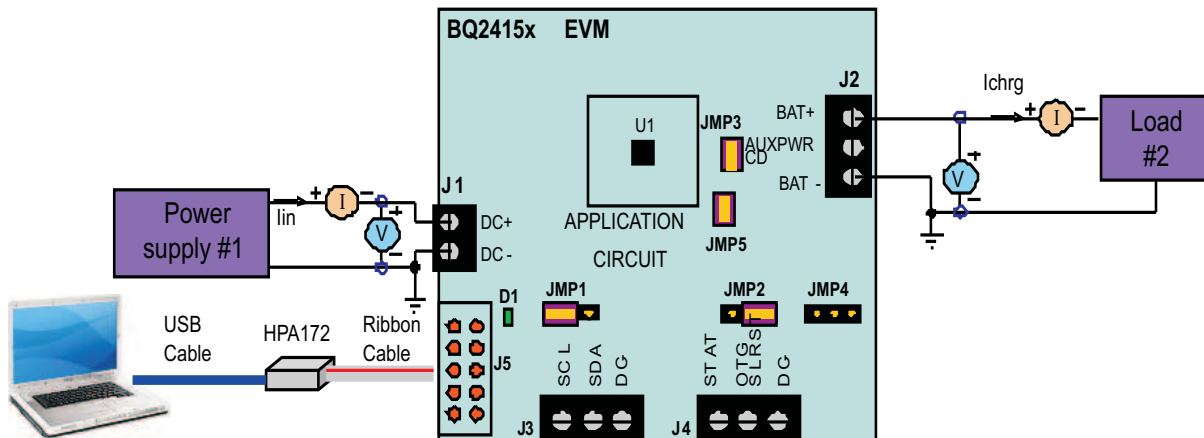

Figure 2. Original Test Setup for HPA256 (bq2415x EVM)
(H) After the steps above, the test setup is shown in Figure 2